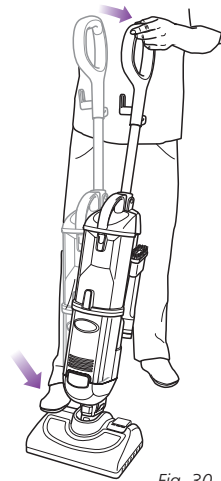

Fig. 30
- 3 After selecting the preferred mode, place your foot lightly on the top of the steam nozzle and tilt the handle back. Begin mopping in a backward and forward motion. (Fig. 30)